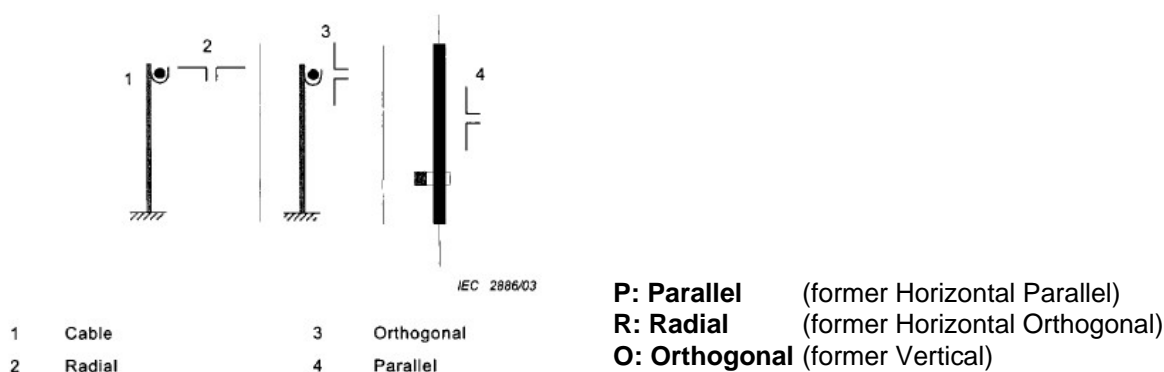

figure 1: spatial orientations of dipoles
- The coupling loss measurement is made with three different dipole orientations towards the cable (figure 1).